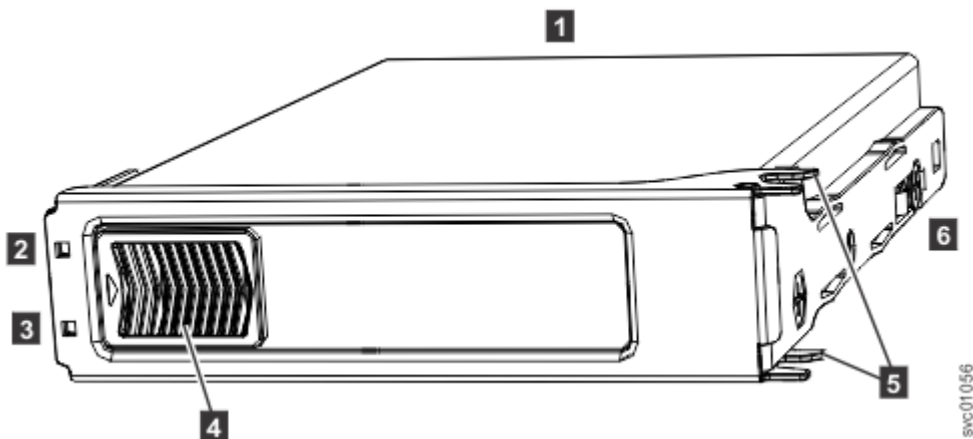

Figure 132. LEDs on a drive assembly
Figure 132 on page 117 shows the components of a drive assembly. Each drive has an online indicator (2) and fault indicator (3).